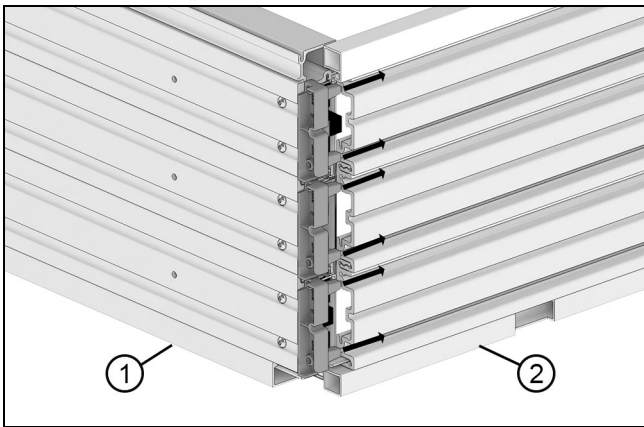

Figure 47
6. Slide the lower jamb corner keys into the sill. See Figure 47.